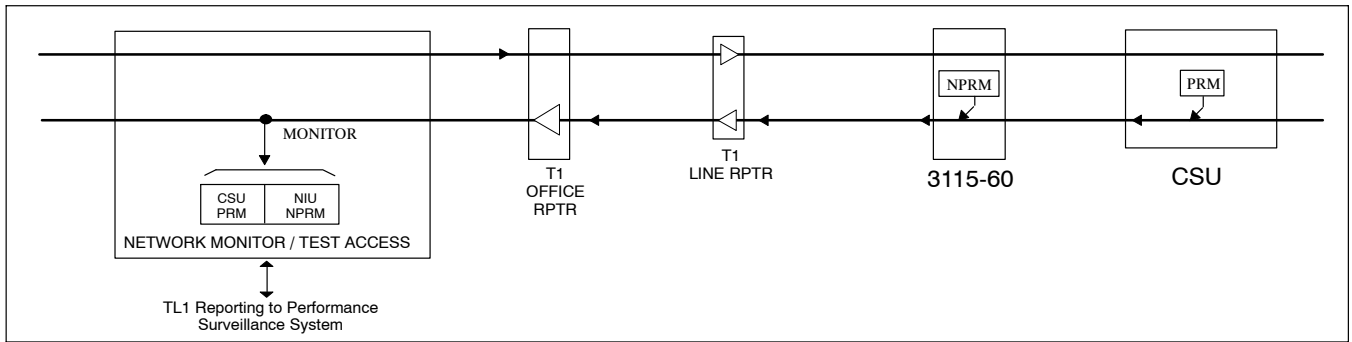

Figure 8. NPRM Application Diagram
6.9.1.1 The NPRM mode operates by sending an NPRM message toward the network once every second. This message contains performance information that covers the last four seconds of operation. This NPRM is inserted into the Data Link by the NIU “after” the 1-second PRM from the customer CSU that is passed through the NIU. Note that the CSU may not generate PRMs or may be operating in the PUB 54016 mode that does not use PRMs. The 3115-60 always generates an NPRM whether CSU PRMs are generated or not. In order to allow network monitoring equipment to differentiate between CSU PRMs and NPRMs, the NPRM is assigned a SAPI address of 16, allowing easy differentiation from a CSU PRM that has an assigned SAPI address of 14. A generalized network diagram of NPRM reporting and collection is illustrated in Figure 8.